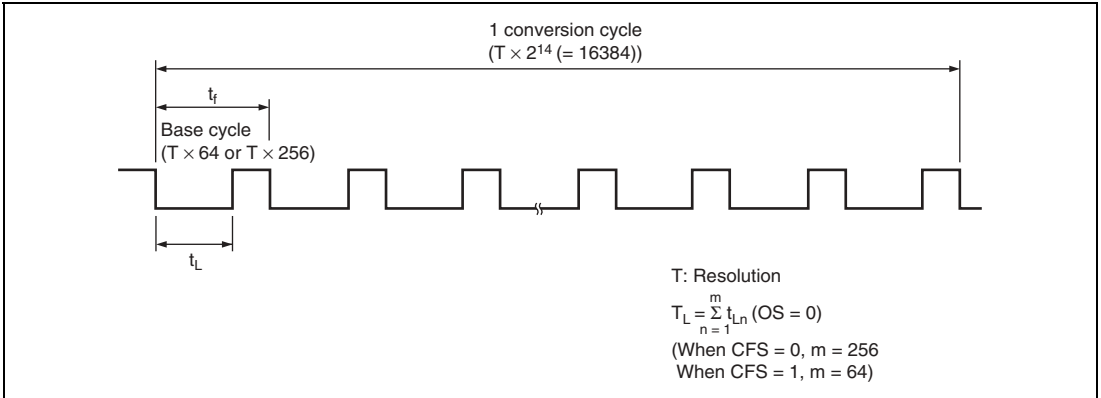
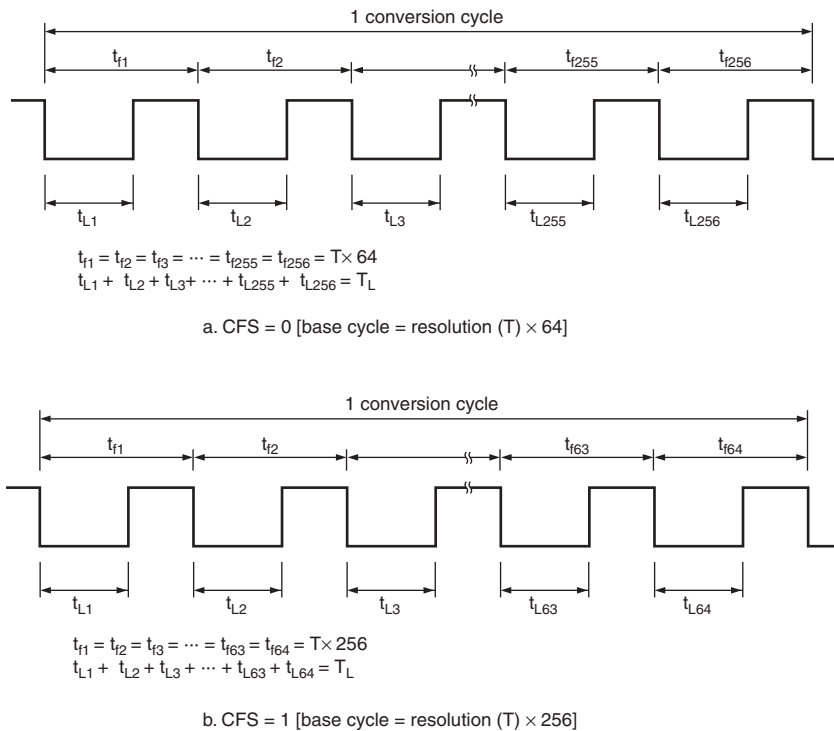

Figure 10.2 PWMX (D/A) Operation
Figure 10.3 Output Waveform (OS = 0, DADR corresponds to T_L)
A PWM waveform like the one shown in figure 10.2 is output from the PWX pin. DA13 to DA0 in DADR corresponds to the total width (T_L) of the low (0) pulses output in one conversion cycle (256 pulses when CFS = 0, 64 pulses when CFS = 1). When OS = 0, this waveform is directly output. When OS = 1, the output waveform is inverted, and DA13 to DA0 in DADR value corresponds to the total width (T_H) of the high (1) output pulses. Figures 10.3 and 10.4 show the types of waveform output available.
Table 10.3 summarizes the relationships between the CKS and CFS bit settings and the resolution, base cycle, and conversion cycle. The PWM output remains fixed unless DA13 to DA0 in DADR contain at least a certain minimum value. The relationship between the OS bit and the output waveform is shown in figures 10.3 and 10.4.